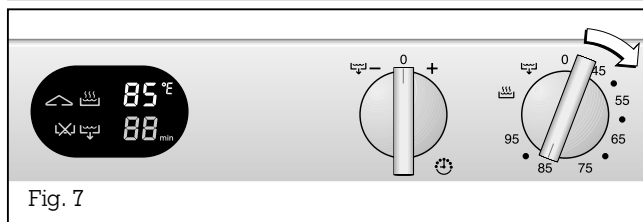

Fig. 7
- **Turn** the "Temperature" knob to the temperature you require or to the steam cooking level (Fig. 7).